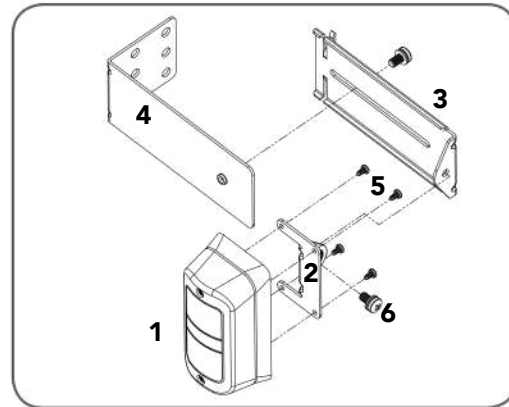

fig 49
- Attach the mounting bracket (4) to adjustment bracket (3) with the pan head screw (6) (supplied) (**Fig. 49**).
- Attach the PE 2000TS bracket (2) to PE beam transmitter (IR-200TS-TX) with four taptite screws (m3x5) and attach the other side to adjustment bracket (3) with the pan head screw (6) (supplied).